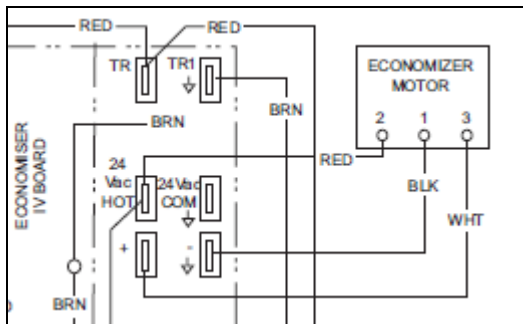

FIGURE 6 – WIRING TO ACTUATOR ON TYPICAL ELECTRO-MECHANICAL ECONOMIZERS
3. Unplug the existing actuator from the economizer harness. See figure 6 for typical electro-mechanical economizers. This diagram is shown for actuator wire connections only and other details may vary.
4. Loosen the (2) nuts on the Belimo actuator's drive rod clamp.